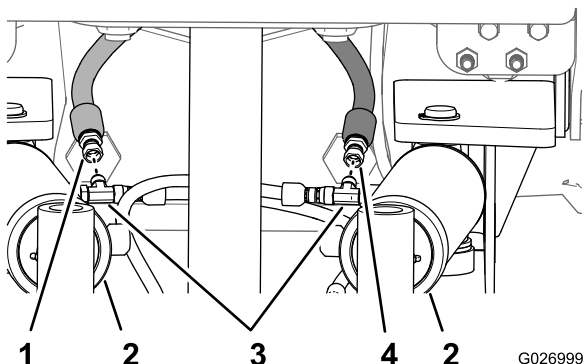

Figure 50
- C. Place a rag over the pivot-cylinder hoses and loosen the swivel nuts (Figure 50).
- D. Switch the position of the 2 hoses to the T-fitting of the opposite pivot cylinders (Figure 50).